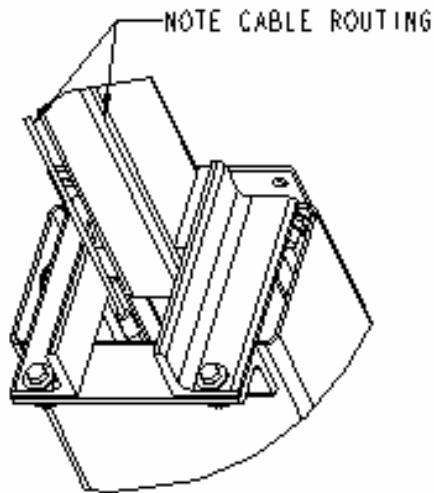

Figure 13
- B. One end of each cable should already be attached to each carriage. Feed the other end of the cable up through the top of the leg as shown, Figure 13,